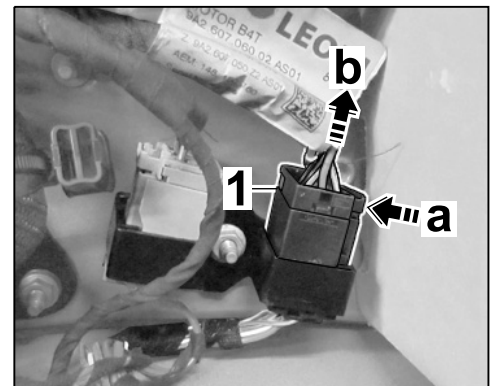

Figure 8
- 2.3.1 Disconnect electric plug connection. To do this, open the locking mechanism ⇒ *Figure 8-a-* and pull out the plug socket ⇒ *Figure 8-b-*.